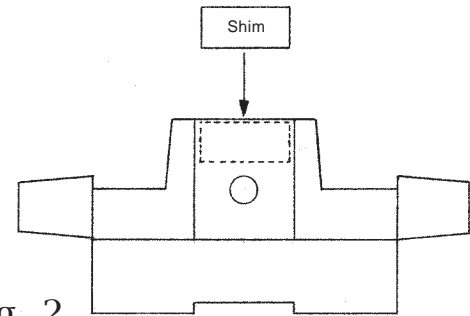

Fig. 2
5. Place the shim along the back edge of the platform (you may cement it if you wish), see Fig. 2. Slip the coupler assembly through through pocket opening.